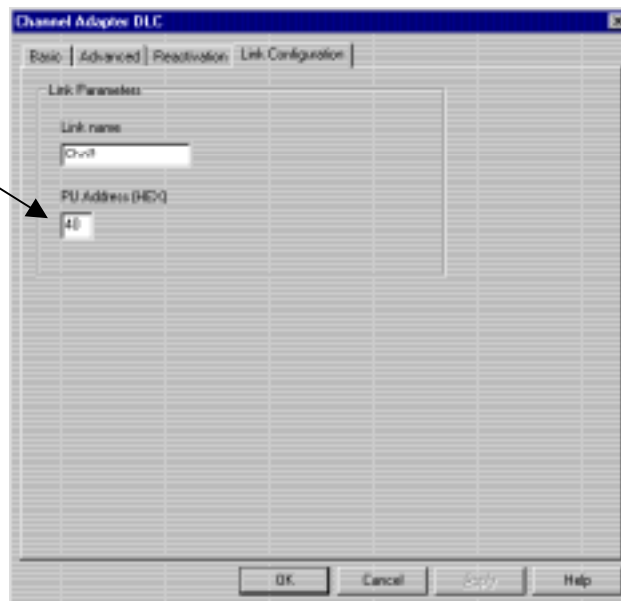

Figure 15-13. Check PU Address
4. Verify that the PU Address matches the address defined in the ESCON configuration and the mainframe IOCP (Figure 15-13).